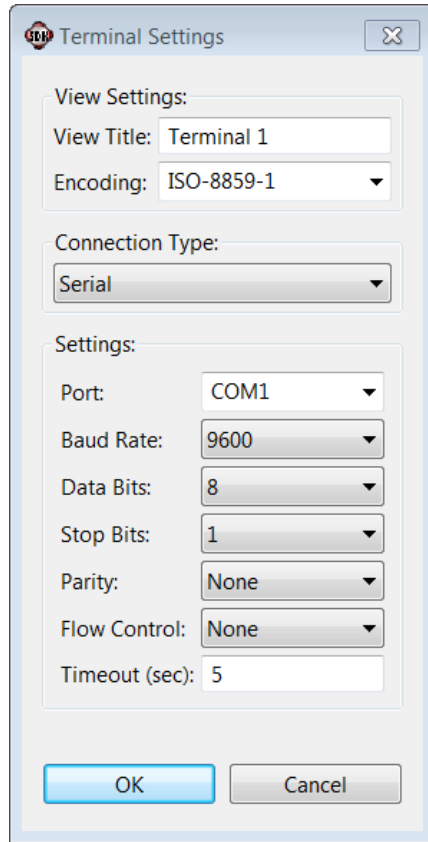

Figure 141: Terminal Settings Dialog Box
- Specify the parameters as shown in the Terminal Settings dialog box, (Figure 141), and click **OK**.